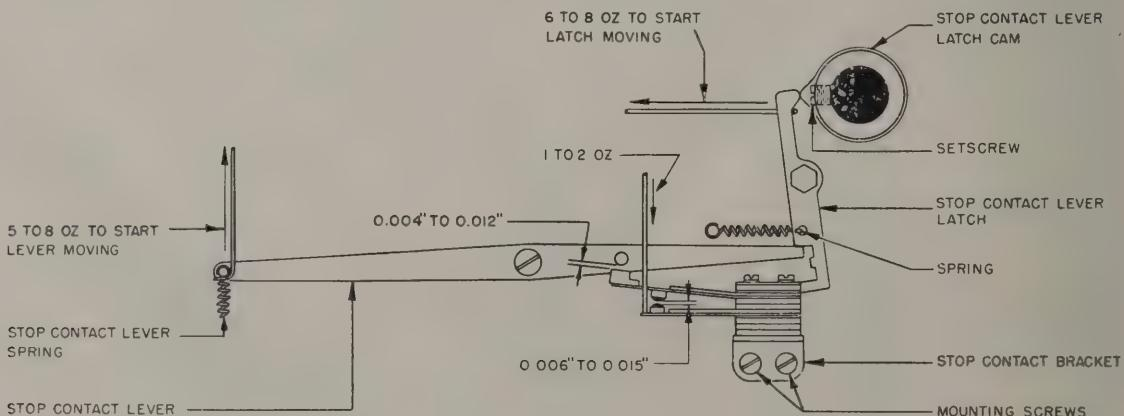

Figure 24. Distortion Test Set TS-383/GG, stop contact requirements.
84. Stop Contact (fig. 24)
a. STOP CONTACT GAP. (1) *Requirement.* With the stop contact lever held away from the stop contacts, there should be a 0.006- to 0.015-inch gap between the contact points.
c. UPPER STOP CONTACT SPRING. (1) *Requirement.* Hold the stop contact lever away from the stop contact and apply the push end of an 8-ounce scale to the upper contact spring at the contact point. Push vertically downward. It should require 1 to 2 ounces to start the contact spring moving away from its stiffener.
85. Stop Contact Bracket (fig. 24)
86. Stop Contact Lever Latch Cam (fig. 24)
87. Stop Contact Lever Latch Spring (fig. 24)
88. Stop Contact Lever Spring (fig. 24)